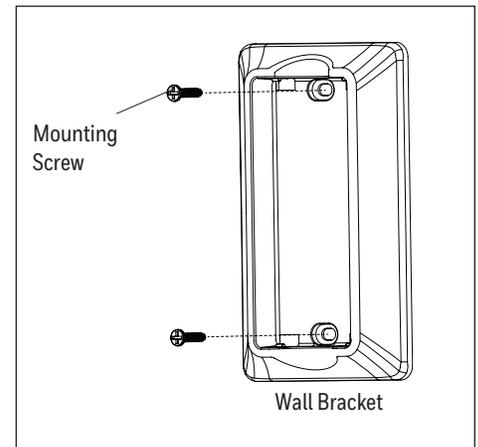

Figure 5.9
9. If desired, the wall bracket in remote pack can be installed to a wall using the provided mounting screws. The remote can be stored in the wall bracket for easy access. (Figure 5.9).